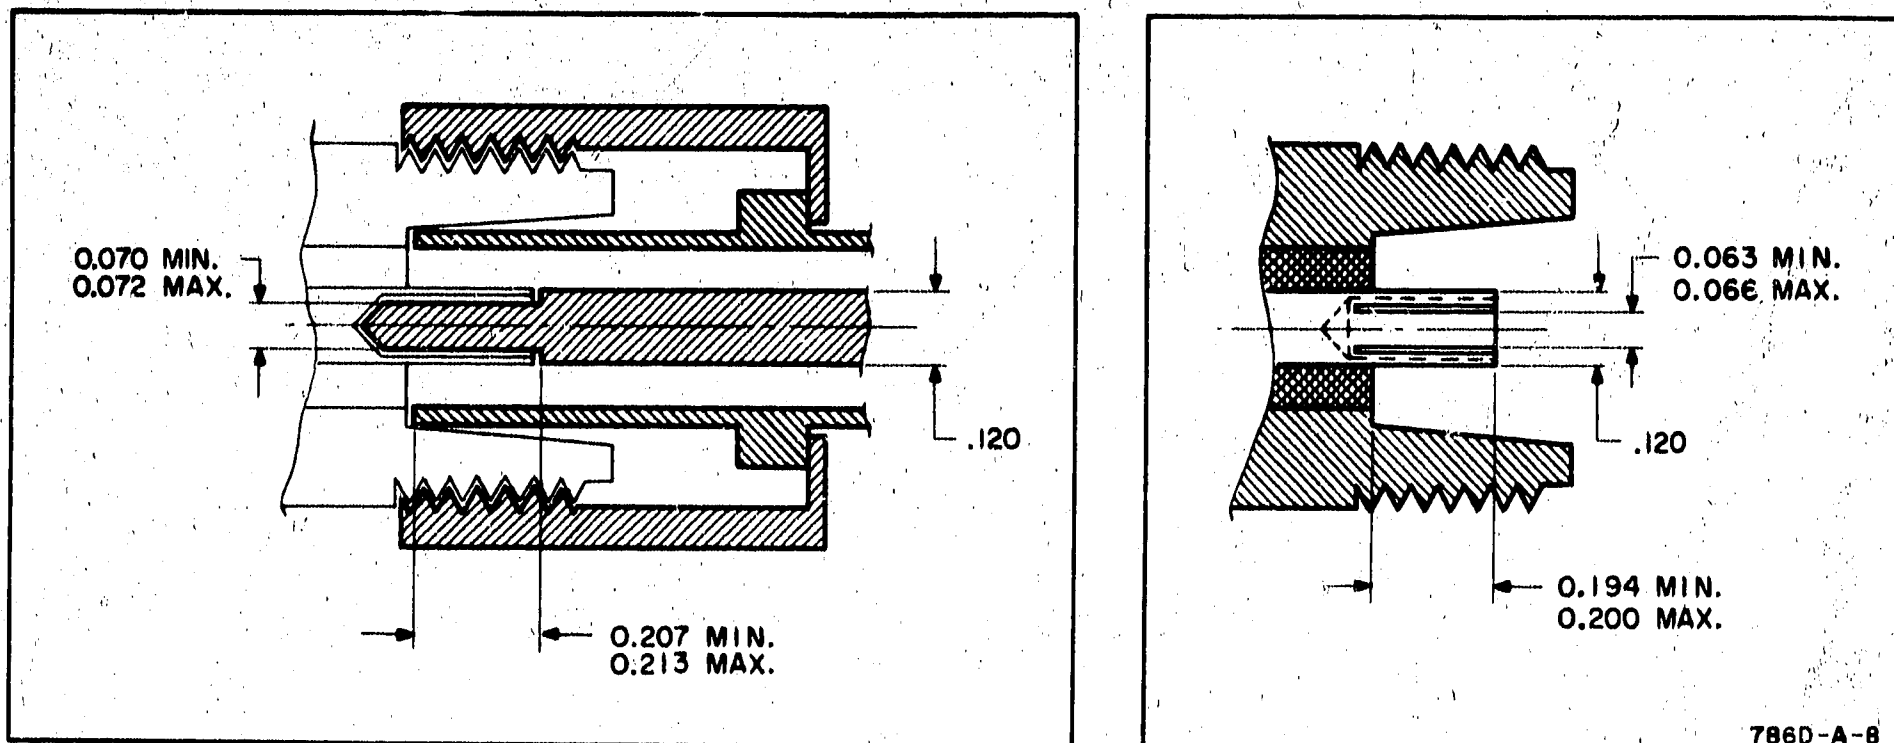

Figure 3. Precision Type N Connector Dimensions
a. The type N connectors are Model precision type N connectors which are designed to mate with standard 50-ohm type N connectors. When mating with any other device equipped with Model precision type N connectors, connector damage will result unless an adapter is used. Precision connector dimensions are given in Figure 3.
b. The detector element used is sensitive to either amplitude-modulated or continuous-wave (CW) RF power. If RF power is amplitude modulated at a 1000-cps  $\pm 2\%$  rate, the sensitive Model 415B or 415D (SWR Meter) can be used as the indicator. For CW detection, a DC milliammeter or millivoltmeter (with an input impedance of at least 100K ohms), such as the Model 425A Microvolt-Ammeter can be used as the indicator.